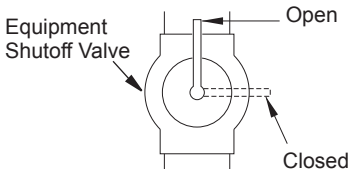

Figure 15 - Equipment Shutoff Valve
1. Close equipment shutoff valve (see Figure 15).
1. Open equipment shutoff valve (see Figure 15, page 16).